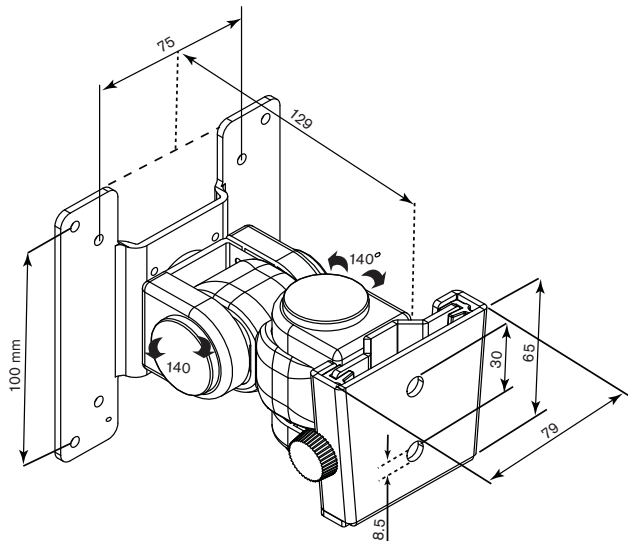

Figure 3.2 UMM-LW-30B Dimensional Drawing
1	VESA mounting plate (A) and wall bracket (B) (see Figure 3.2 on page 17 for a dimensional drawing)